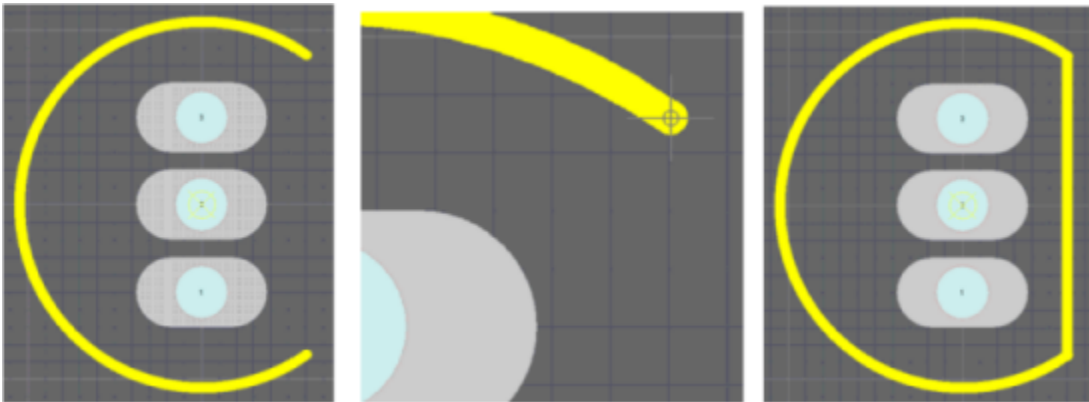

Figure 47. Placed arc, using the electrical grid to snap to the arc end when starting the line, the completed overlay.
2. First, we will place the arc, as shown in Figure 47. To place the arc, select **Place » Arc (Center)** from the menus. Position the cursor at X:0, Y:0 and click to define the arc center. If you know the arc radius and start and end angles it is actually easier to complete the arc placement without trying to interactively define these settings, then edit the
3. Click somewhere to approximately define the arc radius, then click to define the arc start angle. If required you can press the **SPACEBAR** to toggle the direction the arc is rendered before defining the end angle, set the render direction as shown in Figure 47 then click again to define the arc end angle. Right-click to exit arc placement mode.
4. Next is the line. Select **Place » Line** [shortcut: **P** , **L**], or click on the button. Position the cursor near the end of the arc and press **PAGE UP** to zoom in, as shown in Figure 47. As you move the cursor close to the end of the arc it will snap to it, this is the electrical grid pulling the cursor to the end of the existing object. Click to start the line segment.